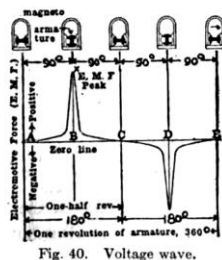
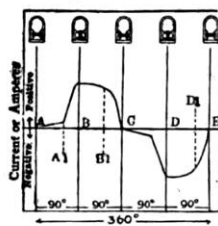

Fig. 40. Voltage wave.
Fig. 46. Current wave diagram
In explanation of this, let us refer to Fig. 40, which shows the open-circuit voltage wave. Start with the position of the armature at (A) on the left. Note that the armature is in a horizontal position and the e.m.f. (electromotive force) is at zero, because the lines-of-force are passing freely through the iron armature core, as is also shown in Fig. 34. Thus, at this point the wires on the armature are not cutting any lines-of-force.
The voltage wave (Fig. 40) differs slightly from the current wave (Fig. 46). The e.m.f. or voltage generated is necessary to force the current to flow.
The e.m.f. starts to build up at about 60° from (A) or at (A1), (Fig. 46), and consequently the current in the closed-circuit winding also starts to flow in a positive direction from (A) to (C) and reaches maximum when the contact points are opened at (B), or slightly afterwards.